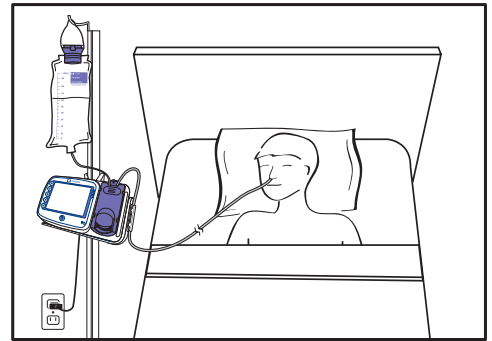

Fig. 1
- a. Plug the power adapter into the power adapter port located on the left side of the pump (Fig. 1). Plug the other (two prong) end of the power adapter into a nearby A/C outlet.